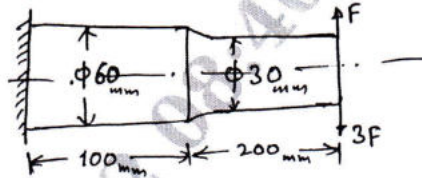

Fig.Q4(c)
- c. A steel rod ( $\sigma_y = 400.1$  MPa and  $\sigma_{-1} = 345.2$  MPa) of circular cross-section shown in Fig.Q4(c) is subjected to load varying from  $3F$  to  $F$ . Determine the value of  $F$ . Use a factor of safety 3. Take stress concentration factor = 1.43,  $q = 1$ .